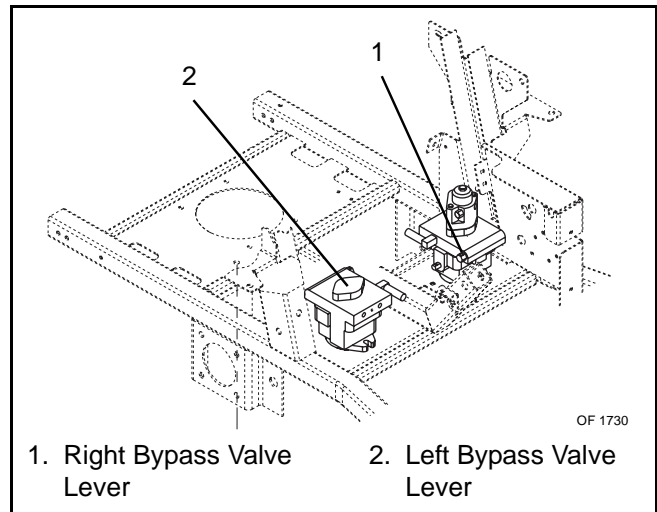

Figure 5
6. Levers must be returned to their original position in order to operate the unit (Figure 5).